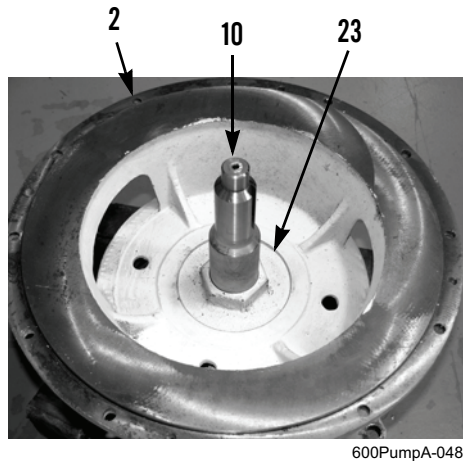
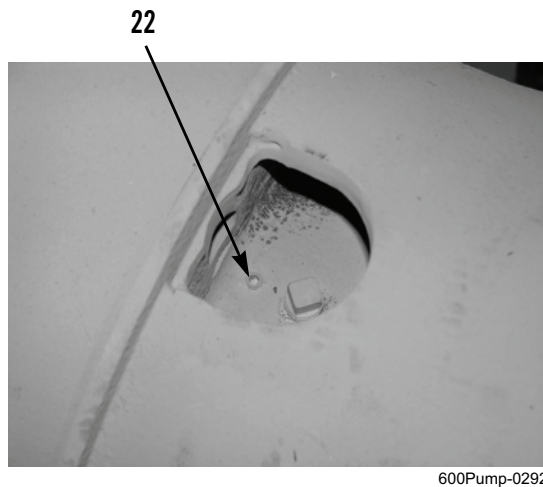

Figure 14. Bearing Retaining Nut.
Figure 15. Setscrew.
6. Apply antiseize compound to threads, then fully install bearing retaining nut (Figure 14, Item 23) in intermediate housing (Figure 14, Item 2).
- a. Check for movement in impeller shaft (Figure 14, Item 10).
- b. If impeller shaft (Figure 14, Item 10) moves, remove bearing retaining nut (Figure 14, Item 23), tap impeller shaft further into intermediate housing (Figure 14, Item 2), and retighten bearing retaining nut.
- c. Recheck impeller shaft (Figure 14, Item 10) for movement.
7. Tighten setscrew (Figure 15, Item 22) to secure bearing retaining nut (Figure 14, Item 23).